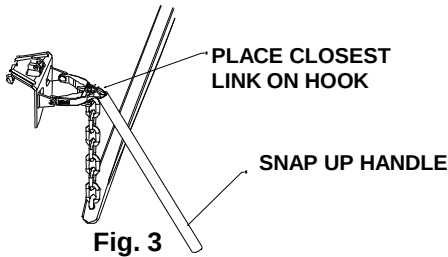

Fig. 3
- Raise trailer tongue and rear of vehicle with the tongue jack. Lower yoke of snap up bracket until it is parallel with the ground, and slip the closest link over the hook (If there are less than 4 links between hook and u-bolt adjust ballmount angle rearward, and repeat procedure - see Fig. 3 & 4 below). With the snap up bracket handle over the yoke, raise until yoke has passed "over-center". Slide the safety pin through the small hole to lock the yoke in place. Repeat for other side.